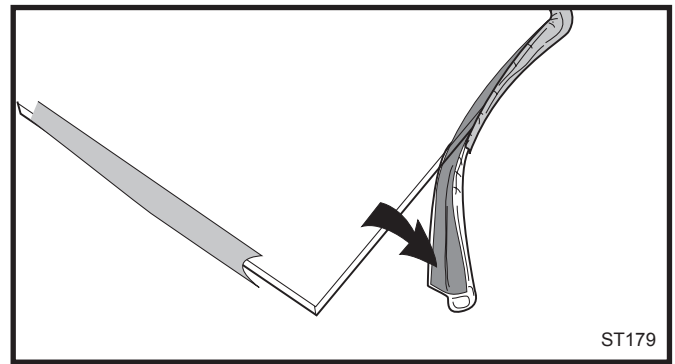

Fig. 66 Wrap the gasket material around the outside edge of the glass.
3. Starting on a long edge, remove about 6" of the protective paper strip and apply the flat adhesive face of the gasket around the outside-facing edge of the panel. Continue around the panel, applying a bout 6" at a time and being careful to not stretch the material. Do not overlap the gasket ends. (Fig. 66)